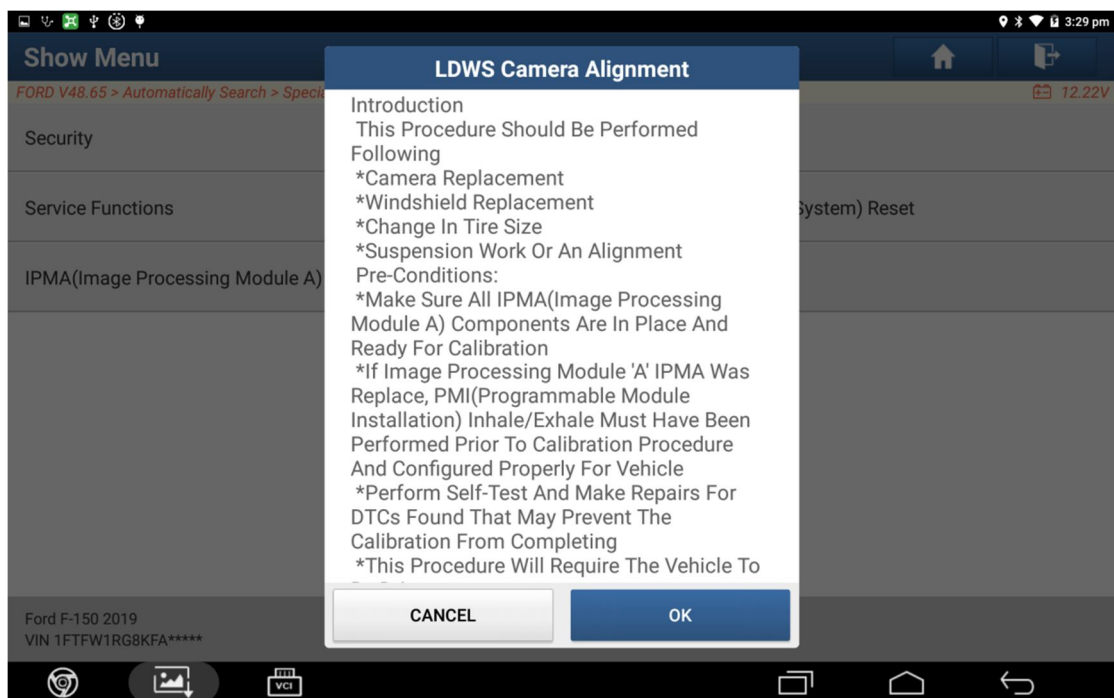

Figure 7
6. Prompt the conditions of performing the function (Figure 7).